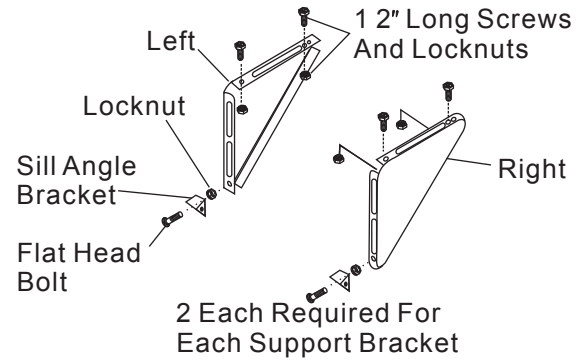

Fig.15B
2. Assemble sill angle bracket to support brackets at the marked position(Fig.15B).